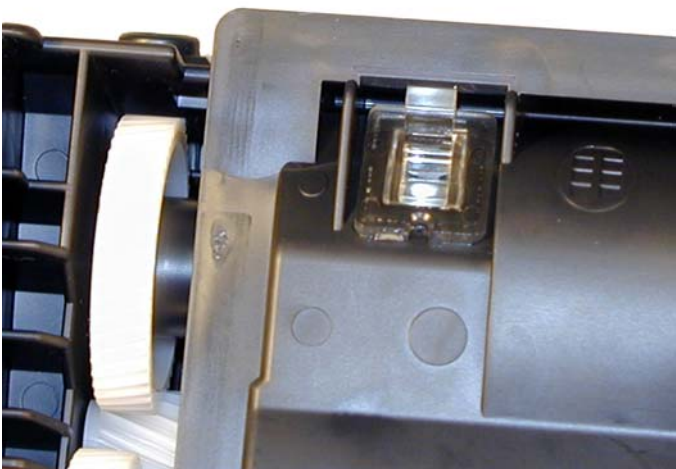

Figure 68
44) Clean the two clear plastic Toner low lenses on the supply chamber. See **Figures 68 & 69**